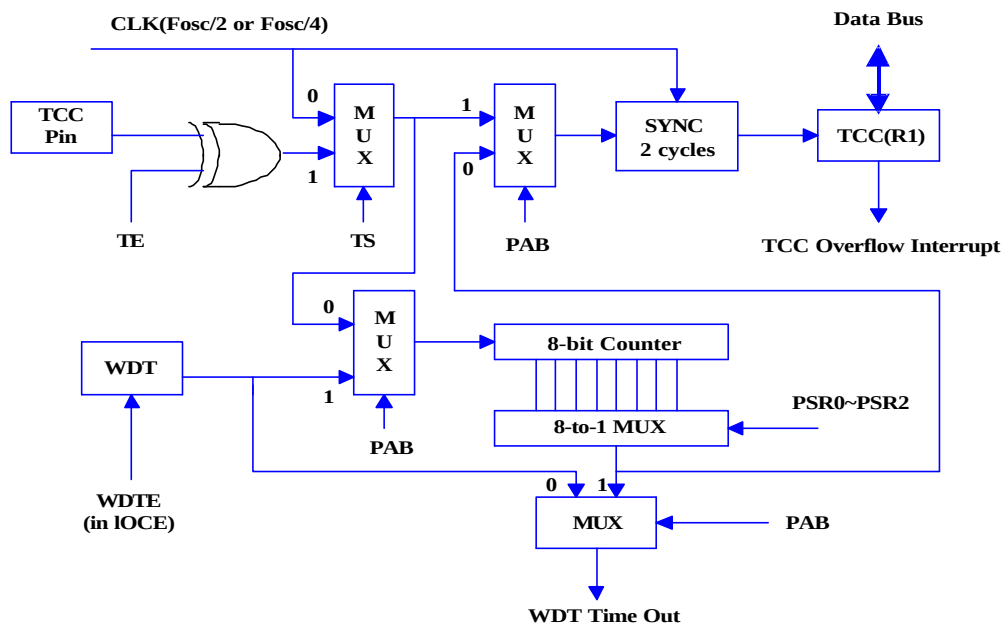

Fig. 5 Block Diagram of TCC and WDT
There is an 8-bit counter available as prescaler for the TCC or WDT. The prescaler is available for either the TCC or WDT only at any given time, and the PAB bit of the CONT register is used to determine the prescaler assignment. The PSR0~PSR2 bits determine the ratio. The prescaler is cleared each time the instruction is written to TCC under TCC mode. The WDT and prescaler, when assigned to WDT mode, are cleared by the "WDTC" or "SLEP" instructions. Fig. 5 depicts the circuit diagram of TCC/WDT.
- R1(TCC) is an 8-bit timer/counter. The clock source of TCC can be internal or external clock input (edge selectable from TCC pin). If TCC signal source is from internal clock, TCC will increase by 1 at every instruction cycle (without prescaler). Referring to Fig. 5, $CLK = F_{osc}/2$ or $CLK = F_{osc}/4$, depends on the CODE Option bit CLK. $CLK = F_{osc}/2$ is used if CLK bit is "0", and $CLK = F_{osc}/4$ is used if CLK bit is "1". If TCC signal source is from external clock input, TCC is increased by 1 at every falling edge or rising edge of TCC pin.